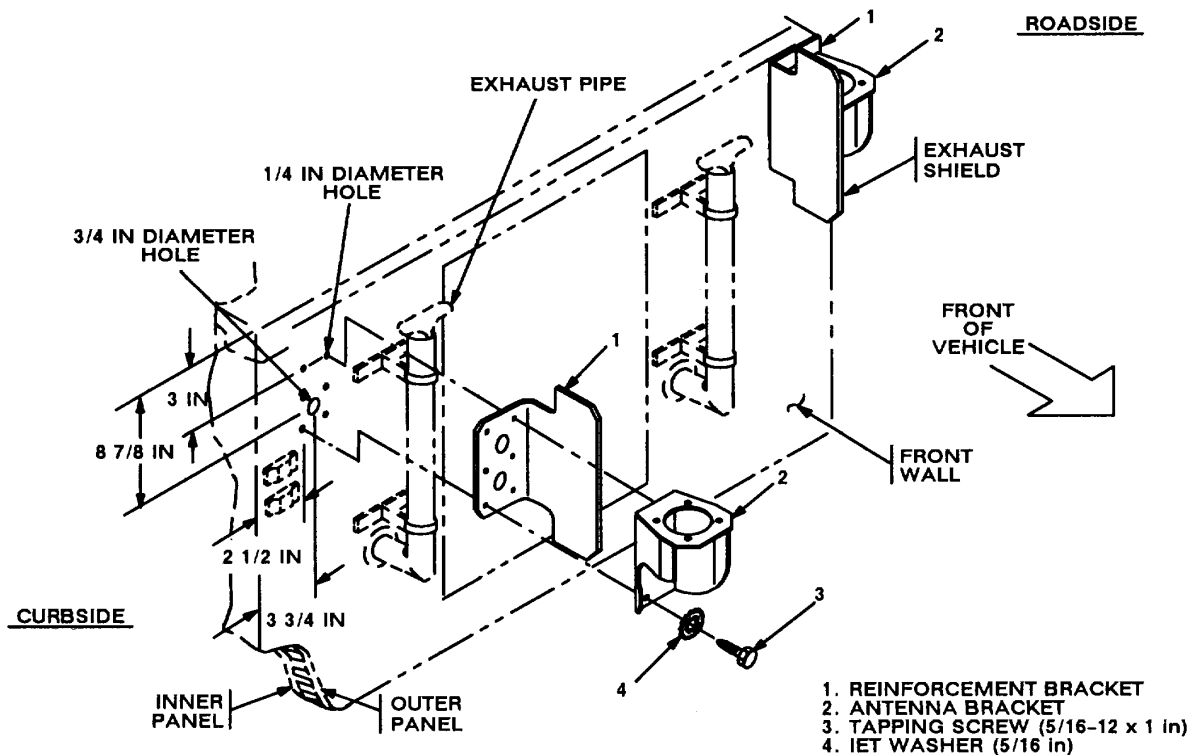

Figure 5-2 (1). Antenna Base Installation: Installing Antenna Bracket
d. Gasket (4).	Place on antenna bracket (5) and align with mounting holes. See figure 5-2 (2).
e. Antenna base (1).	Place on top of gasket (4) and antenna bracket (5). Align mounting holes.
f. Four cap screws (2), eight IET washers (3) and four nuts (7).	Install and secure to antenna base (1) and antenna bracket (5).	Tools: 9/16 in socket and 9/16 in wrench.
g. Ground strap (10), two IET washers (8) and hex-head tapping screw (9).	Install and secure to right bottom hole in antenna bracket (5), reinforcement bracket (6) and front wall.	Tools: 1/2 in socket.